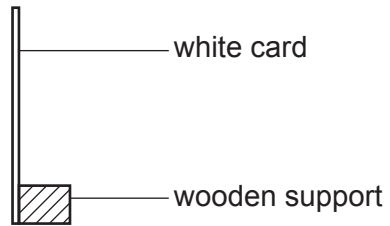

Fig. 5.3
5.4 The screen can be made from a sheet of white card (10 cm × 10 cm approx.). Some means of supporting the screen vertically must be supplied e.g. fixing the white card to a small block of wood. See Fig. 5.3.